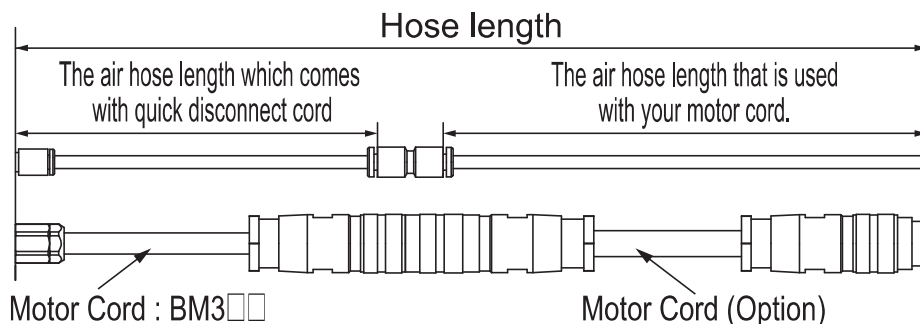

Fig. 29
(1) One Motor Spindle is connected to the Control Unit.	Air Pressure (MPa)	0.2		0.25		0.3
(2) Two Motor Spindles are connected to the Control Unit.		0.4		0.5
*Note 1 : "Hose Length" indicates total hose length consisting of the Quick Disconnect Hose and the Motor Cord Hose. See Fig 29 to see how to calculate "Hose Length".